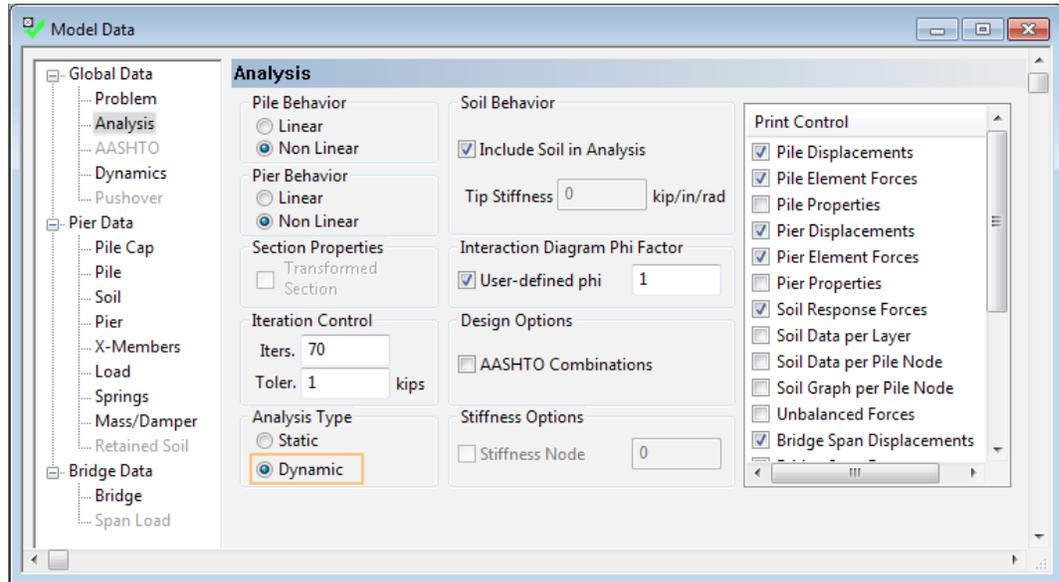

Figure 3 Select Analysis Type.
1. Select the "Dynamic" analysis option in the Analysis Type panel on the "Analysis" page (**Figure 3**).